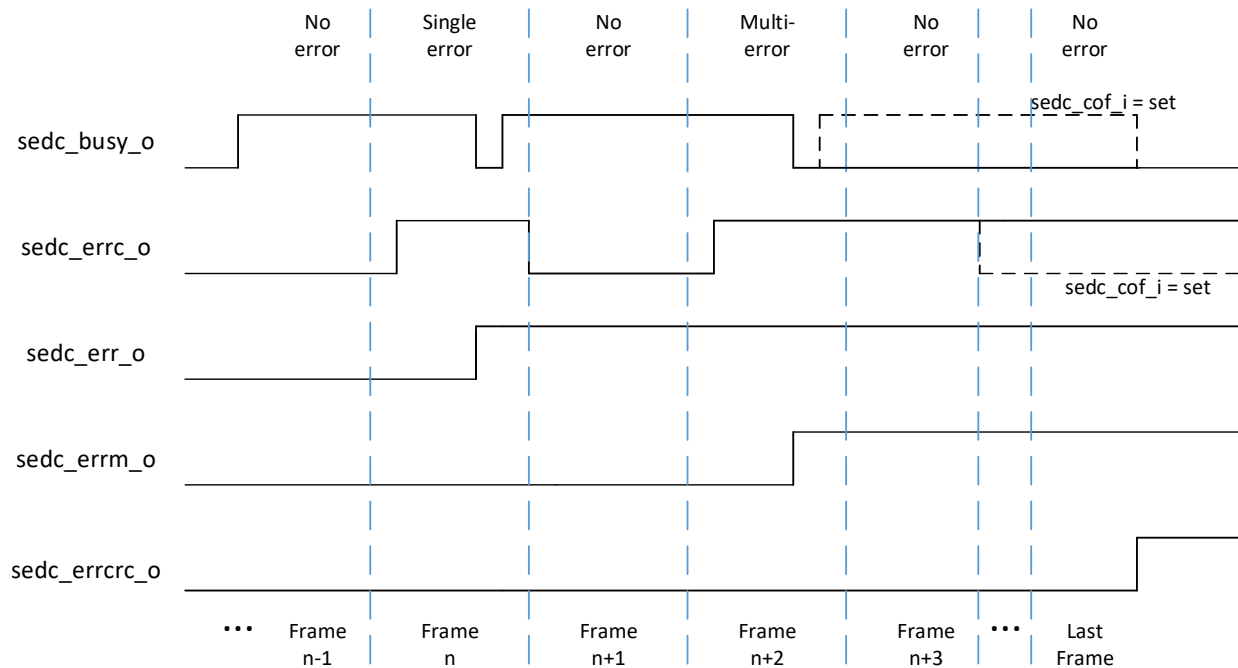

Figure 6.4. SEDC Error Handling Flags (Single Scan Duration Shown)
Figure 6.4 shows the different types of errors reported by the SED module in Nexus platform devices. The *sedc\_errc\_o* signal flags as soon as there is an error. The *sedc\_err\_o*, *sedc\_errm\_o*, and *sedc\_errcrc\_o* are sticky flags and the SED module had to be restarted to reset these error flags as shown in Figure 6.4.
**Note:** In Figure 6.4, *sedc\_busy\_o* deasserts during operation briefly, as shown, while the block is performing error correction. Soft Error Correction only occurs if *sed\_en\_i* (soft error correction enable) is set. If *sed\_en\_i* is not set, *sedc\_busy\_o* remains asserted high until all frames are checked, regardless of error state.